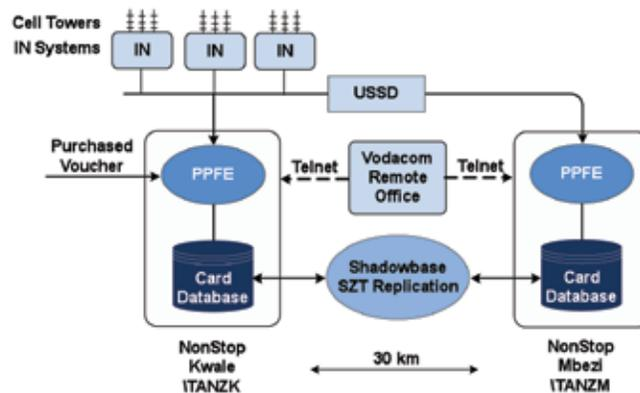

Figure 1 - PPFE Architecture
A simplified overview of how cell calls are handled is shown in Figure 1. In this figure, cell phone subscribers connect to the Vodacom cellular network via Intelligent Network (IN) systems. Each subscriber is assigned an IN based on the first digits of his telephone number. Each cell phone tower connects to an IN. Various information is collected about a cell phone user (such as the number of minutes he has left in his account, and the
If the PPFE experiences an outage, subscribers will not be able to add minutes to their accounts. Cell phone service will become unavailable to subscribers once their balance is exhausted. Therefore, the PPFE is implemented as a dual HP NonStop server pair using a bi-directional Shadowbase SZT data replication configuration, where one system is the production system and handles all transactions (see Figure 1). However, the backup system is actively running the PPFE application and is ready to take over in seconds if the production system fails. Its database is kept synchronized with the production system by the Shadowbase data replication engine from Gravic, Inc. ([www.gravic.com/shadowbase](http://www.gravic.com/shadowbase)).5